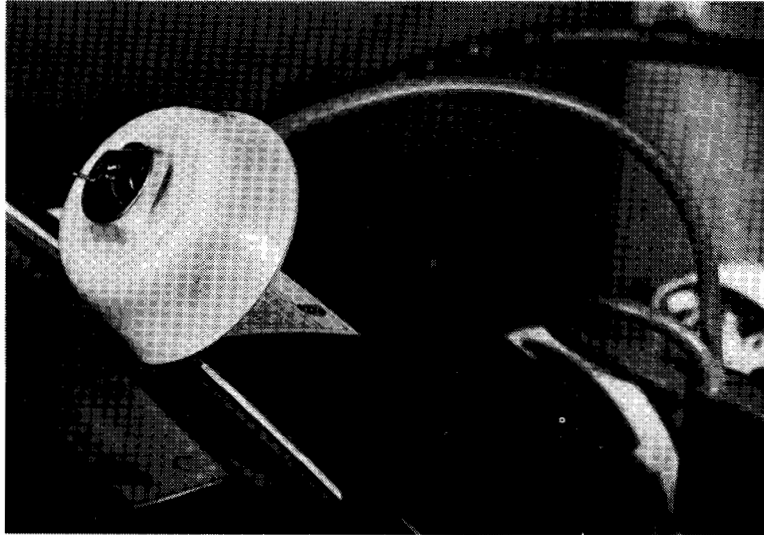

Figure 4-84. Anode Orientation
Ensure anode connector is oriented as shown in Figure 4-84 before connecting to CRT. Fold rubber back as shown and replace anode in CRT. Ensure that both anode prongs are fully seated and unfold rubber against CRT.
9. Replace sweep board. Ensure anode connector is oriented as shown in Figure 4-84.